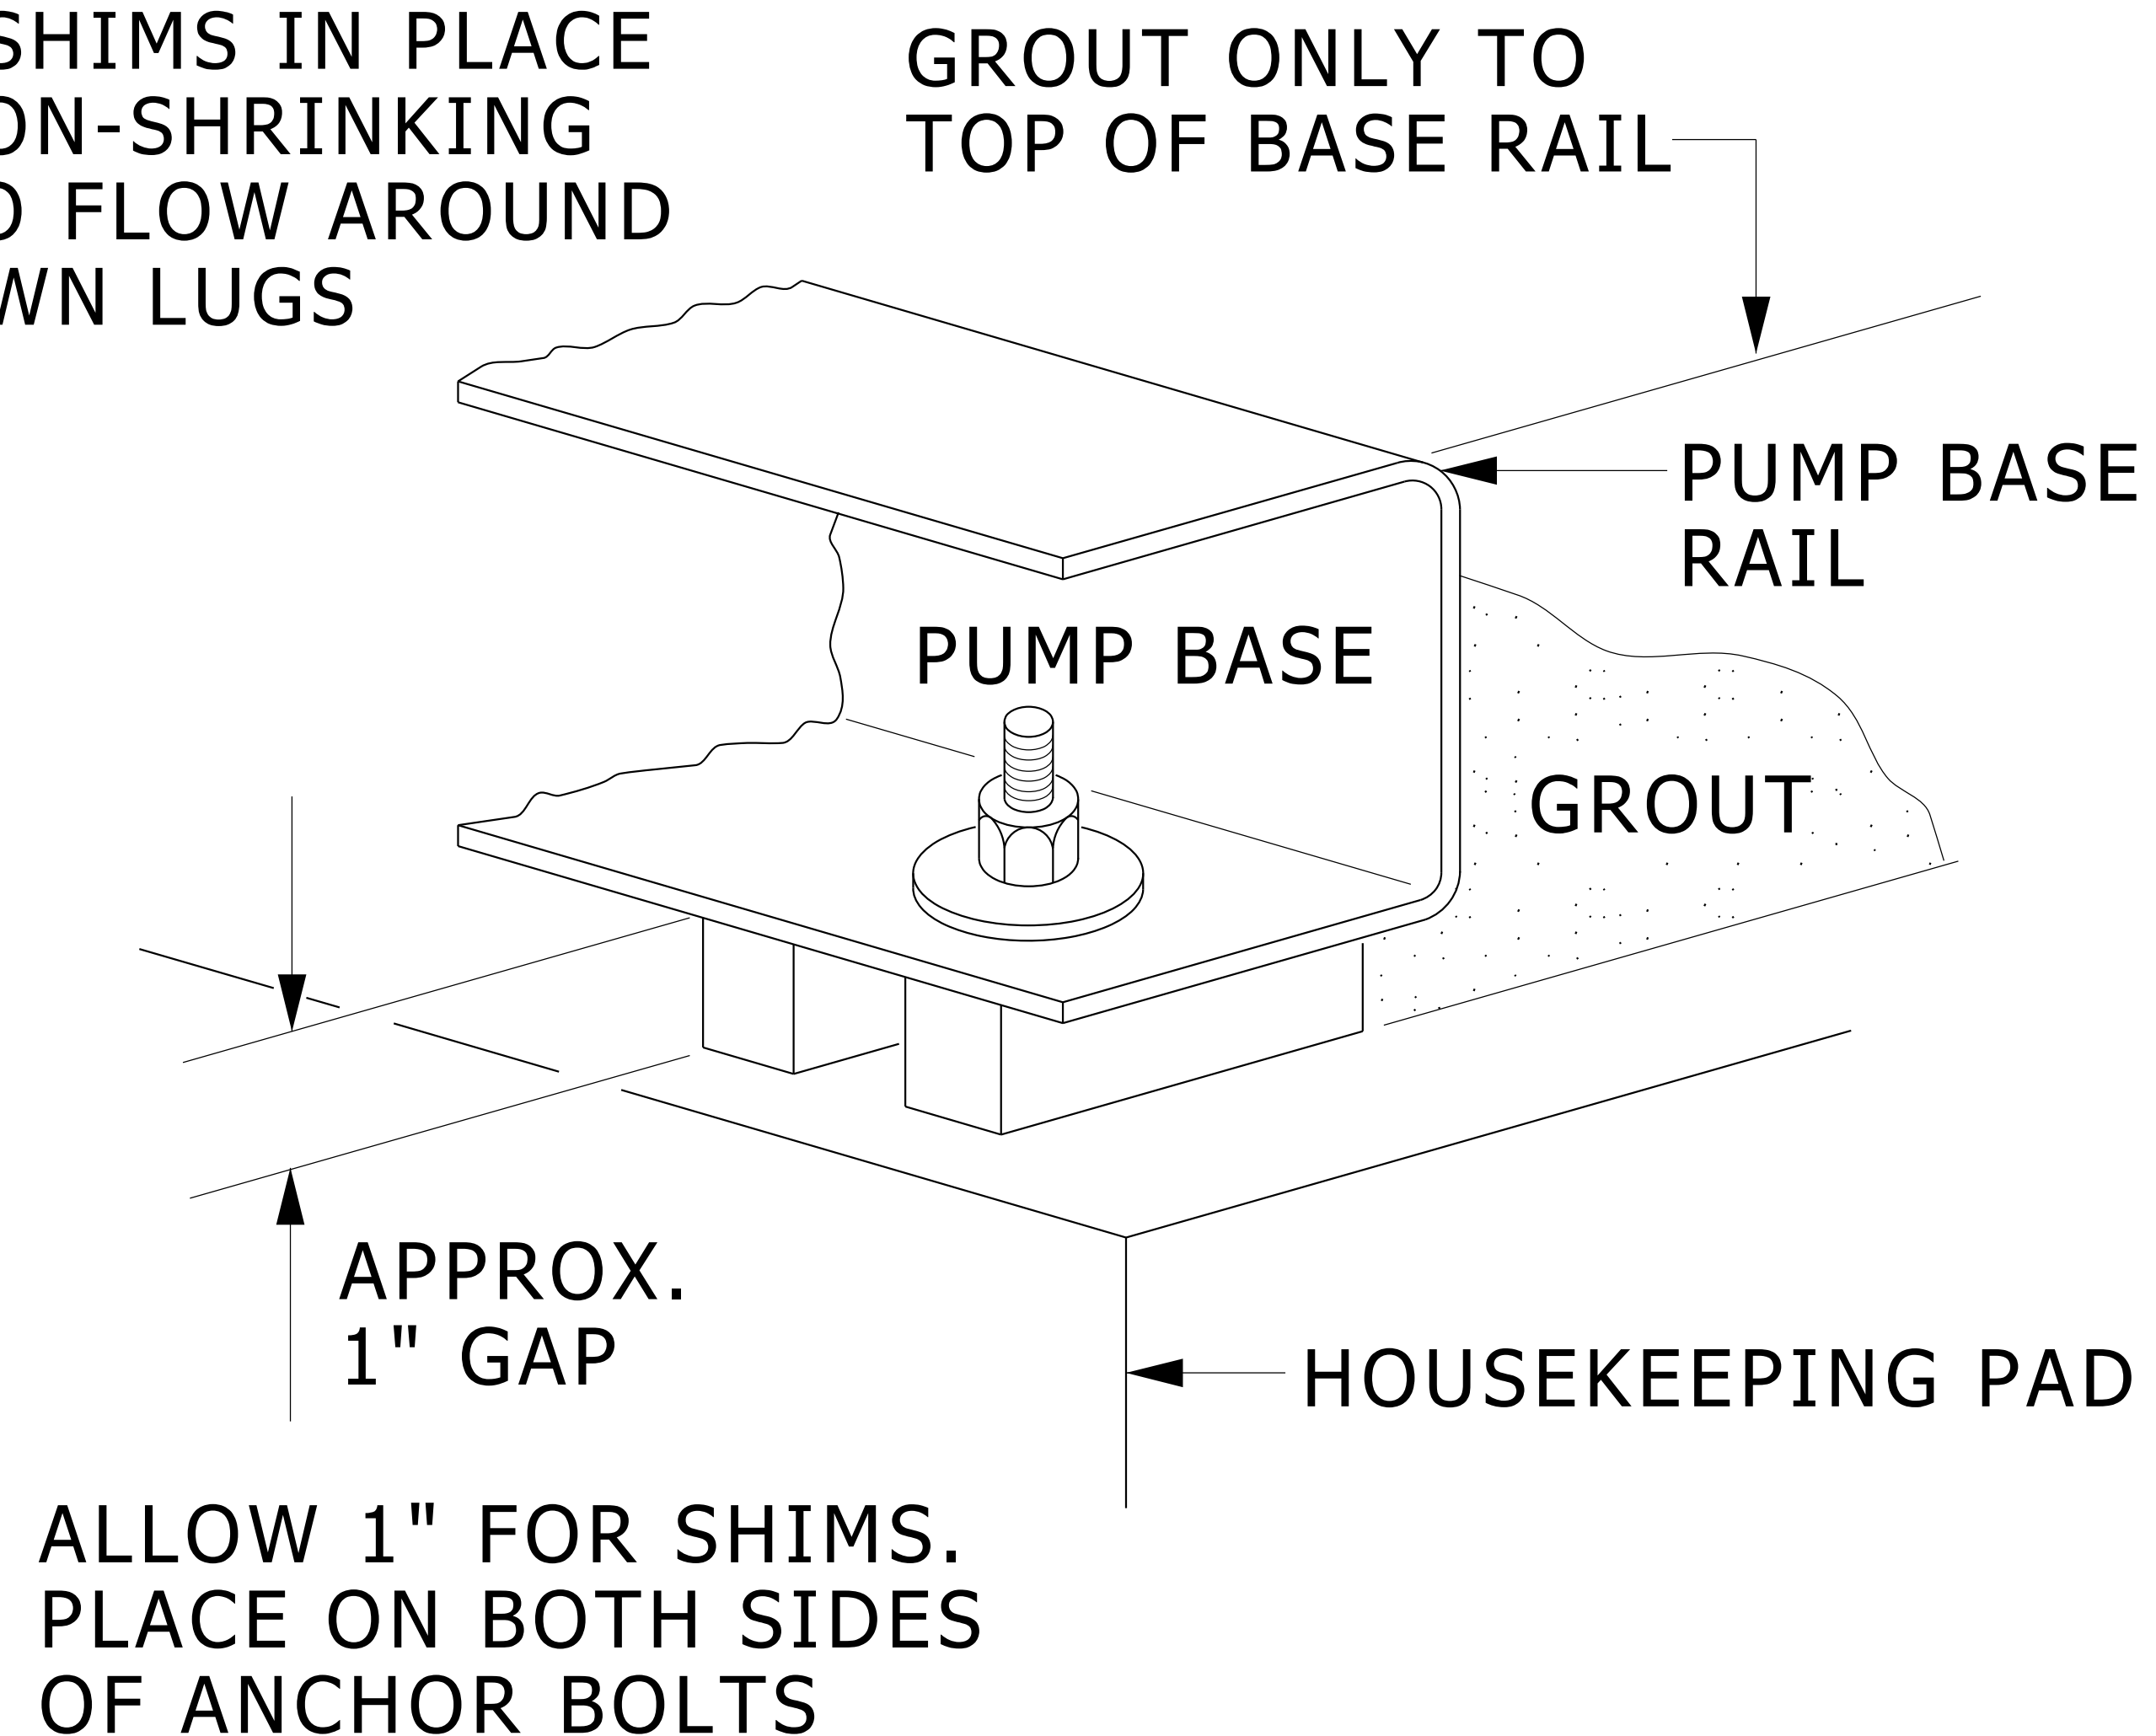

FIGURE 2
2. PLACE PUMP ON HOUSEKEEPING PAD SUPPORTING IT WITH SHIMS TOTALING 1" IN THICKNESS. SHIMS SHOULD BE PUT ON BOTH SIDES OF EACH ANCHOR BOLT AS A MEANS OF LEVELING THE BASE. (SEE FIGURE 2)
3. AFTER PUMP HAS BEEN LEVELED, SECURELY BOLTED TO FLOOR AND PROPERLY ALIGN PER SPECIFICATION. NON-SHRINKING GROUT IS TO BE POURED INTO PUMP BASE. TO HOLD SHIMS IN PLACE ALLOW THE GROUT TO FLOW AROUND THEM. (SEE FIGURE 2).